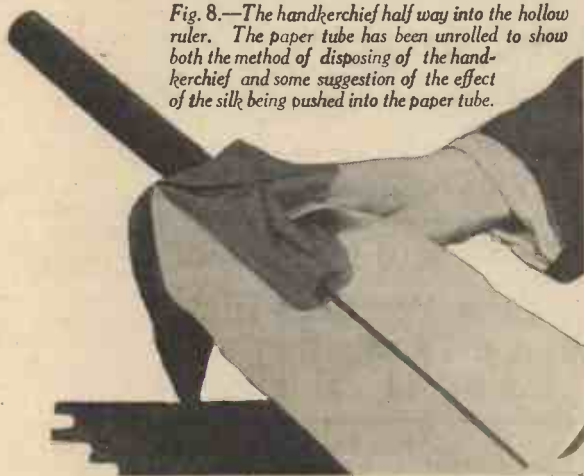

Fig. 7.—(Left) An exposed view. The top cube is a hollow shell and is seen slipping down over the middle cube.
Mention of a shell to represent an article brings us to class (2). Fig. 7 shows how the centre cube of a pile of three is caused to vanish under cover of a cloth by being hidden inside the topmost cube.